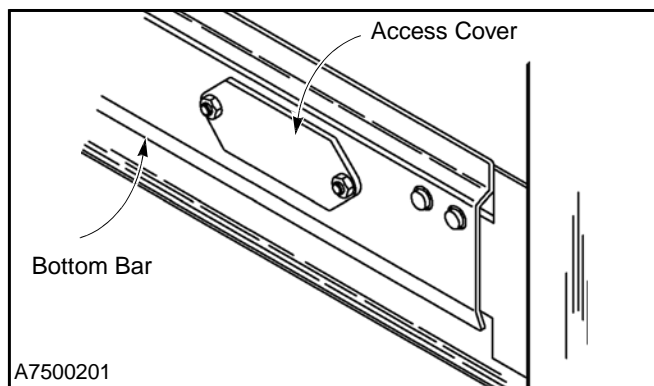

Figure 40
1. The reversing edge switch is located inside the bottom bar assembly. To inspect and/or adjust the switch, remove the access cover from the face of the bottom bar assembly. (See Figure 40.)